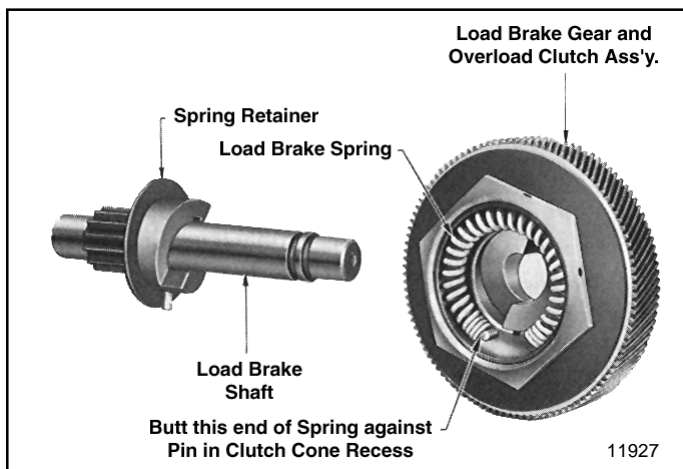

Figure 7-21. Load Brake Gear and Overload Clutch Assembly Removed from Load Brake Shaft Showing Brake Spring Installed in Clutch Cone
- (3) Remove load brake gear and overload clutch assembly from output pinion shaft. Pull the spring from its recess in clutch cone (Figure 7-21) but do not further disassemble gear and clutch assembly. See "Note" below.
Note: Disassembly of the load brake gear and overload clutch assembly (Figure 7-21) is not recommended. Clutch pressure is preset by the factory at assembly to provide the correct torque to allow the clutch to refuse loads within a specified range (110% of rated load to 180% rated load). It is suggested whenever there is a need to repair or readjust the gear and clutch assembly that it be sent to an authorized **YALE** Hoist Repair Station where adequate tools, fixtures and appropriate test equipment is available.
- (1) Before assembly, all parts should be cleaned and inspected to determine their serviceability. Replace parts that are excessively worn or damaged.
- (2) Reassemble load brake parts following a reverse procedure of the disassembly steps listed above, observing the assembly steps (3) through (6) below.
- (3) Before installing spring in its recess in center of clutch cone (Figure 7-21) apply a good grade of ball bearing grease to inside of recess. Spring must be positioned exactly as illustrated, butted against pin.